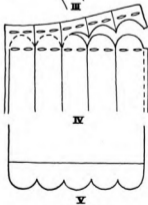

FIGURE 127
scalloped hem (Figure 127), taking care to keep the corner designs accurate. Measure the facing the exact length of the part to be faced plus seam allowance. The width of the facing will depend upon its use and the material, but the facing should be cut  $\frac{1}{2}$  inch wider than the finished width. The facing is sewed together and the plain seam is pressed open. Place the right side of the facing to the wrong side of the garment, taking care that the corners and edges match. Pin and baste the facing to the garment. Stitch  $\frac{1}{4}$  inch from the raw edge. If the outer edge is cut in a design, it is necessary to clip between the scallops  $\frac{1}{8}$  inch from the seam. Remove bastings and turn the facing to the right side of the garment and baste the plain seam so it comes directly on the fold. Turn under a  $\frac{1}{4}$ -inch hem around the outer edge of the facing and baste. Press with a warm iron. Pin the outer edge of the facing to the garment and baste around the design. Stitch as close to edge of design as possible. Remove bastings and press on wrong side of the garment.
*Scalloped, Pointed, or Squared Hems* (Figure 127). — The bottom of the garment having no decorative pattern may be shaped in scallops, points, or squares. For this kind of a hem, a longer skirt length is required. A safe amount to add to the skirt length is the width of the design, as a cut-up design has a tendency to shorten the appearance of the skirt. Establish the hemline and, before removing the pins, run a close basting along the hemline. Locate a center front and back in the garment and pin evenly together. Run a basting along the pinline and remove the pins. Fold the center front and back together and crease on the